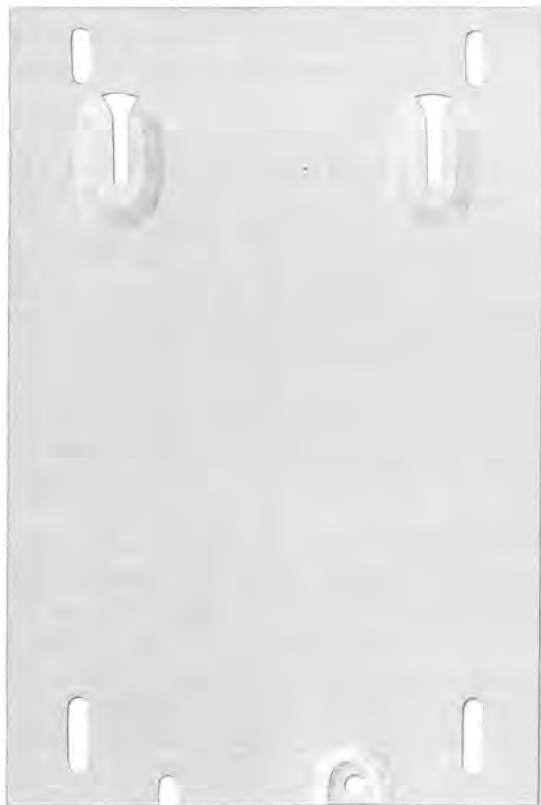

Fig. 15—1A Service Unit Mounting Bracket
**3.15** Separate 1A service unit (Fig. 14) from mounting bracket (Fig. 15).
**3.16** Install mounting bracket (Fig. 15) vertically on wall (or suitable vertical surface) using appropriate fasteners for the weight of the unit.